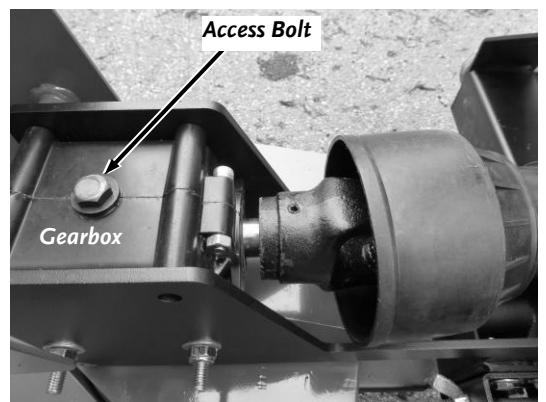

Figure 44
4. Remove the Access Bolt using a 17mm Wrench (**Figure 44**).